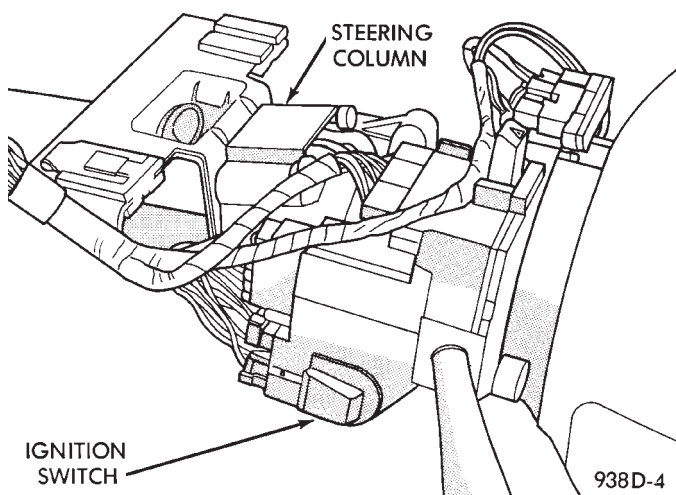

Fig. 4 Ignition Switch Removal/Installation
- (1) Disconnect the negative cable from the battery.
- (2) Remove the tilt lever attaching screw. Remove lever.
- (3) Remove the upper and lower cover from steering column.
- (4) Disconnect electrical connector from ignition switch (Fig. 4).
- (5) Remove Ignition switch mounting screws. Remove switch.